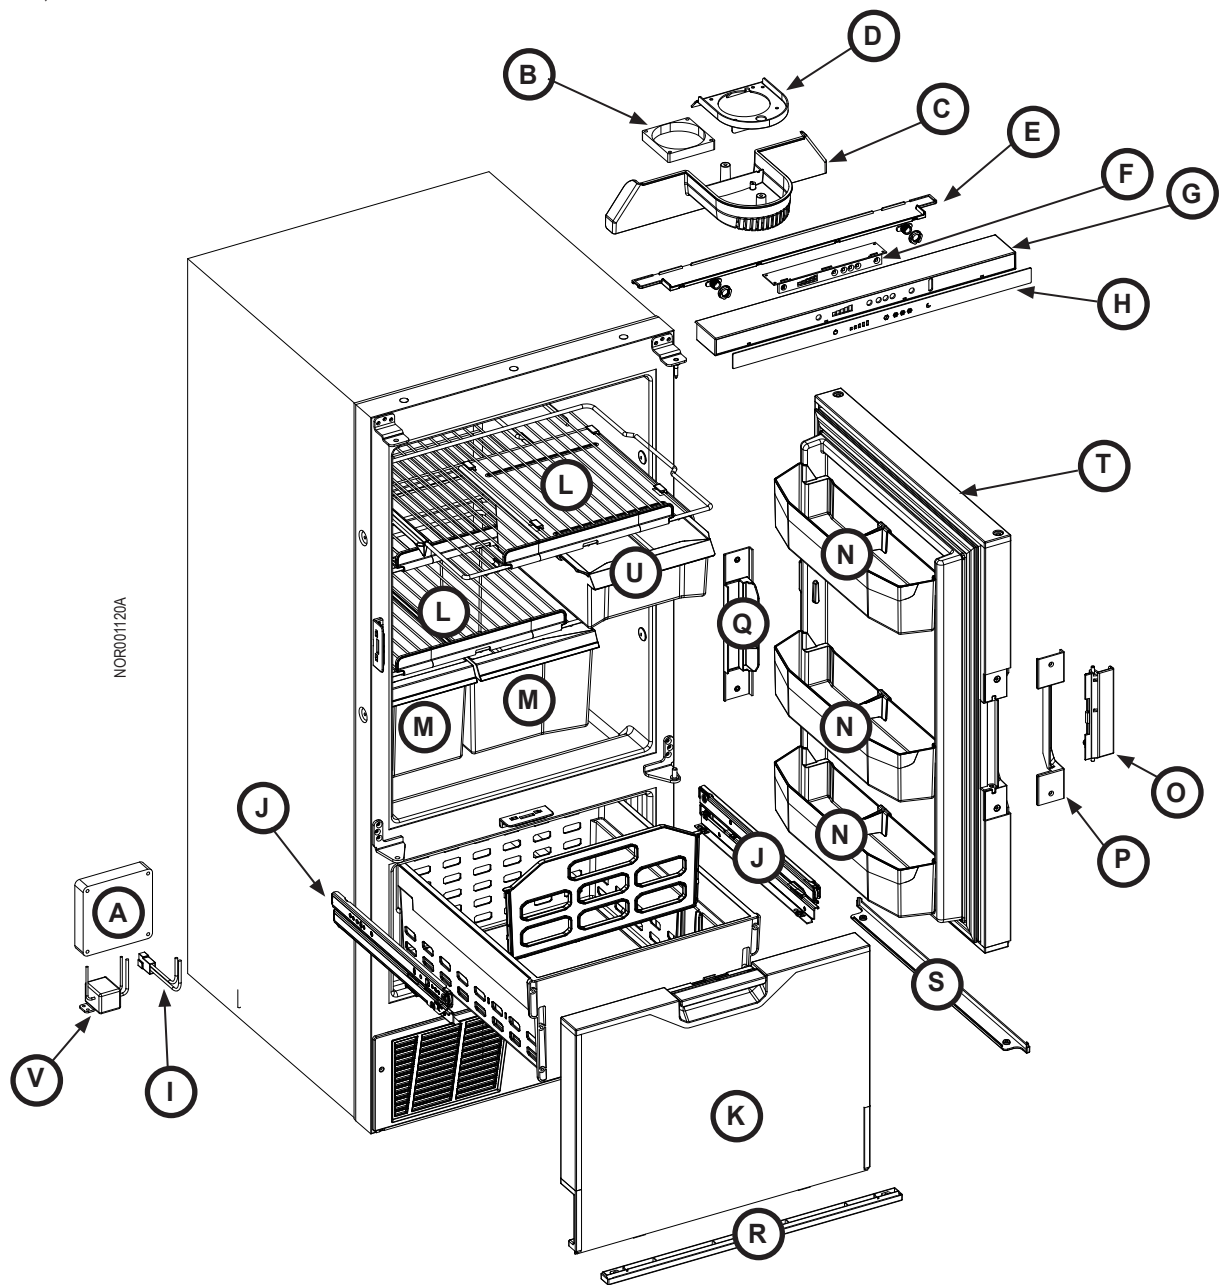

Fig. 4 - N2175 exploded front view
Touch and hold the ON / OFF button (Fig. 4, A) to turn the refrigerator on. The display icons will blink for a few seconds and then go off. The ON/OFF button will remain illuminated in blue while the refrigerator is on.
Unlock the controls and then slide or touch the bar icons (Fig. 4, B) to select the temperature setting. The smallest bar is the warmest temperature setting and the largest bar icon is the coldest temperature setting.
Unlock the controls and then slide or touch the snowflake icons (Fig. 4, C) to select the temperature setting. One (1) snowflake on is the warmest temperature setting and three (3) snowflakes on is the coldest temperature setting.
Touch and hold the freezer compartment OFF button (Fig. 4, D) to turn the freezer compartment off.
To select night mode, first unlock the controls and then touch the night mode button (Fig. 4, E). The night mode button will illuminate blue while night mode is on.